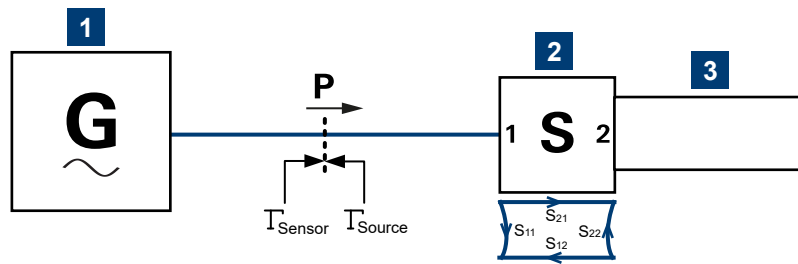

Figure 8-3: Correction of interactions between signal source, S-parameter device and sensor
The interaction between the complex reflection coefficient Γ_{sensor} of the sensor and the reflection of port 2 is expressed by s_{22} , see Figure 8-3. If the S-parameter correction is enabled, this interaction is always considered, regardless whether gamma correction is performed or not.
- S-parameter device if the S-parameter correction is enabled, S11 in Figure 8-3.